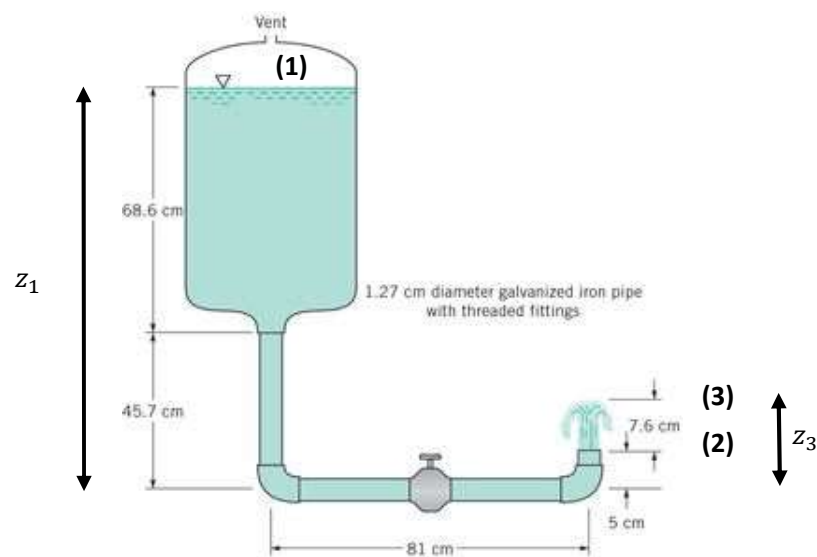

Figure 1. Problem 1
1. Water flows from the container shown in the Fig. 1. Determine the loss coefficient needed in the valve if the water is to 'bubble up' 7.6 cm above the outlet pipe.